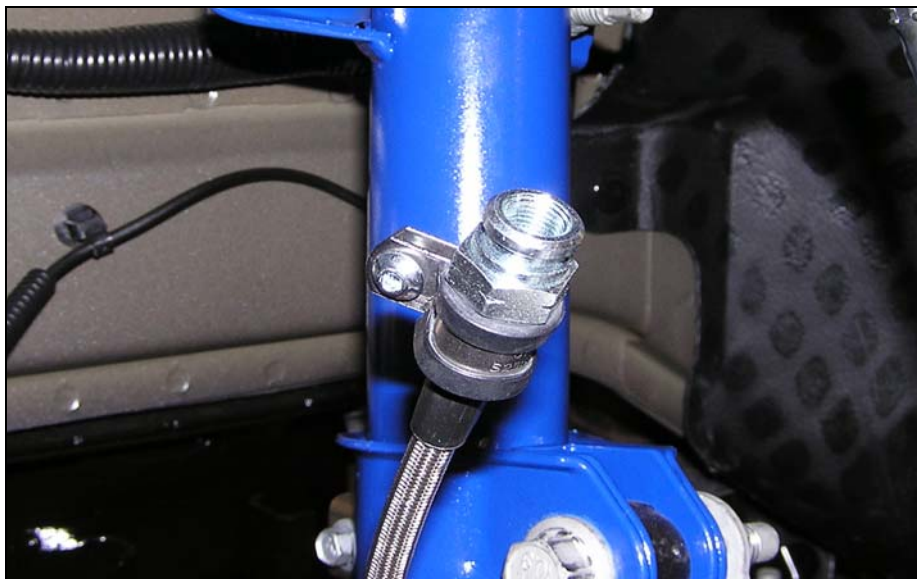

Figure 17
4. Place the Adel Clamp over the Braided Brake Hose so that the offset is to the rear the car and the retainer holes are inboard when the hose is held vertical. Refer to Figure 17.